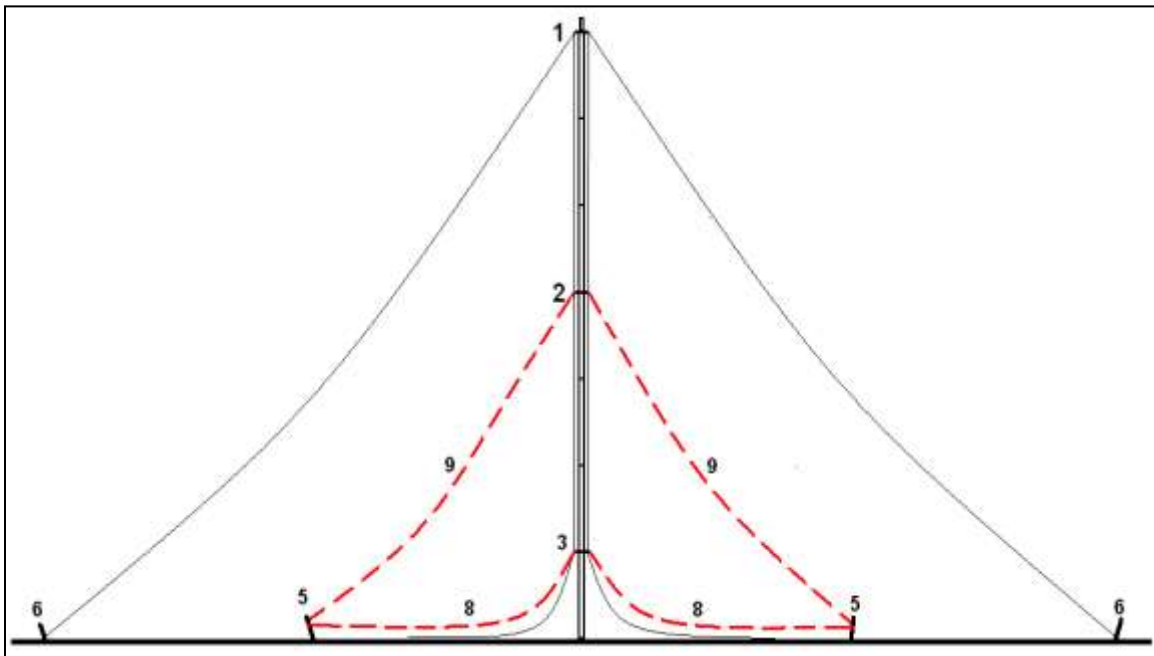

Figure 6. Installing the 28 ft (8.53 m) ropes and preparing wires and ropes loose to lift the seven sections of mast to insert the eighth.
After inserting the seventh section of mast with its guy ring (3), tie the 28 ft (8.53 m) ropes (8) to the guy ring and to the inner stakes (5) as shown in Figure 6.